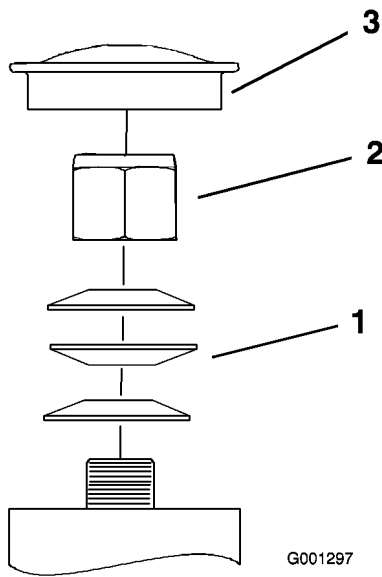

Figure 56
3. Remove the dust cap from caster and tighten lock nut (Figure 56).
4. Tighten the locknut until the spring washers are flat and then back off a 1/4 turn to properly set the pre-load on the bearings (Figure 56).
- Important:** Make sure spring washers are installed correctly as shown in Figure 56.
5. Install the dust cap (Figure 56).